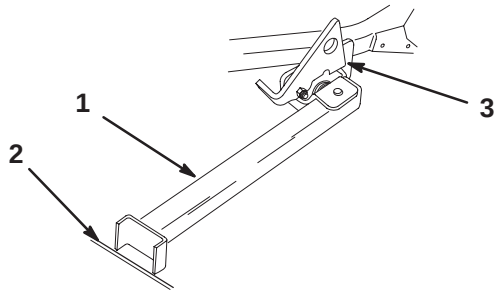

Figure 25
4. Set foot of stand on the ground and rest latch on pivot tab (Fig. 25).
Note: For best results, place foot of stand into seams in sidewalks or into turf (Fig. 25).
6. Drive onto stand. Stop when latch drops over tab into locked position (Fig. 25). Once onto stand, engage parking brake. Shut off engine.